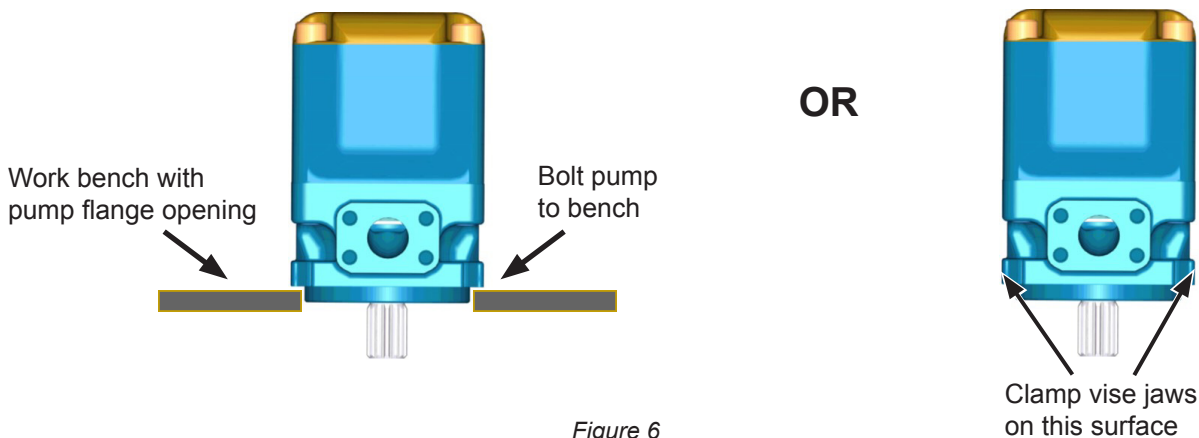

Figure 6
3. Mount the pump, shaft down, in a suitable vise or work bench with opening for pump flange. Clamp vise jaws onto mounting flange surfaces on the mounting cap assembly. (See Figure 6.)